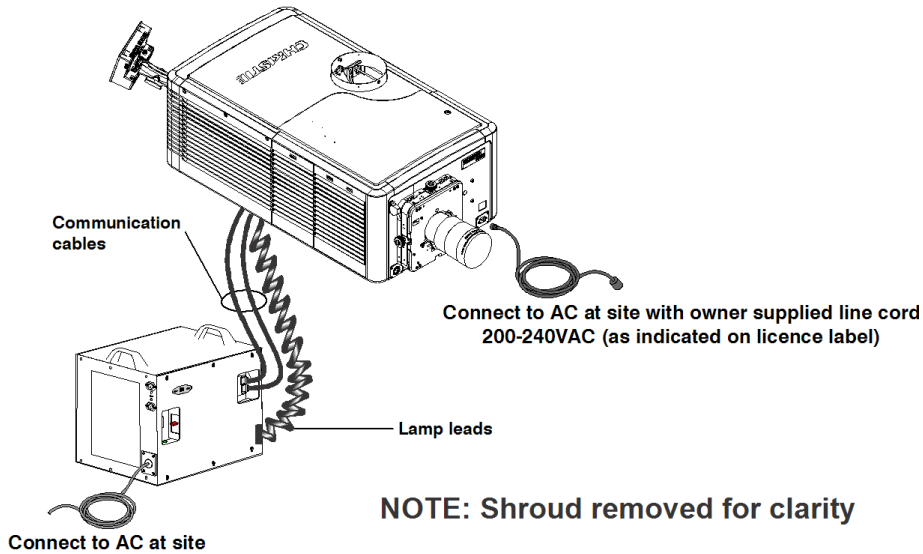

Figure 2-23 Connection to AC
8. Connect AC from the site to the projector (plug located on front bezel, bottom-right corner).(Figure 2-23)